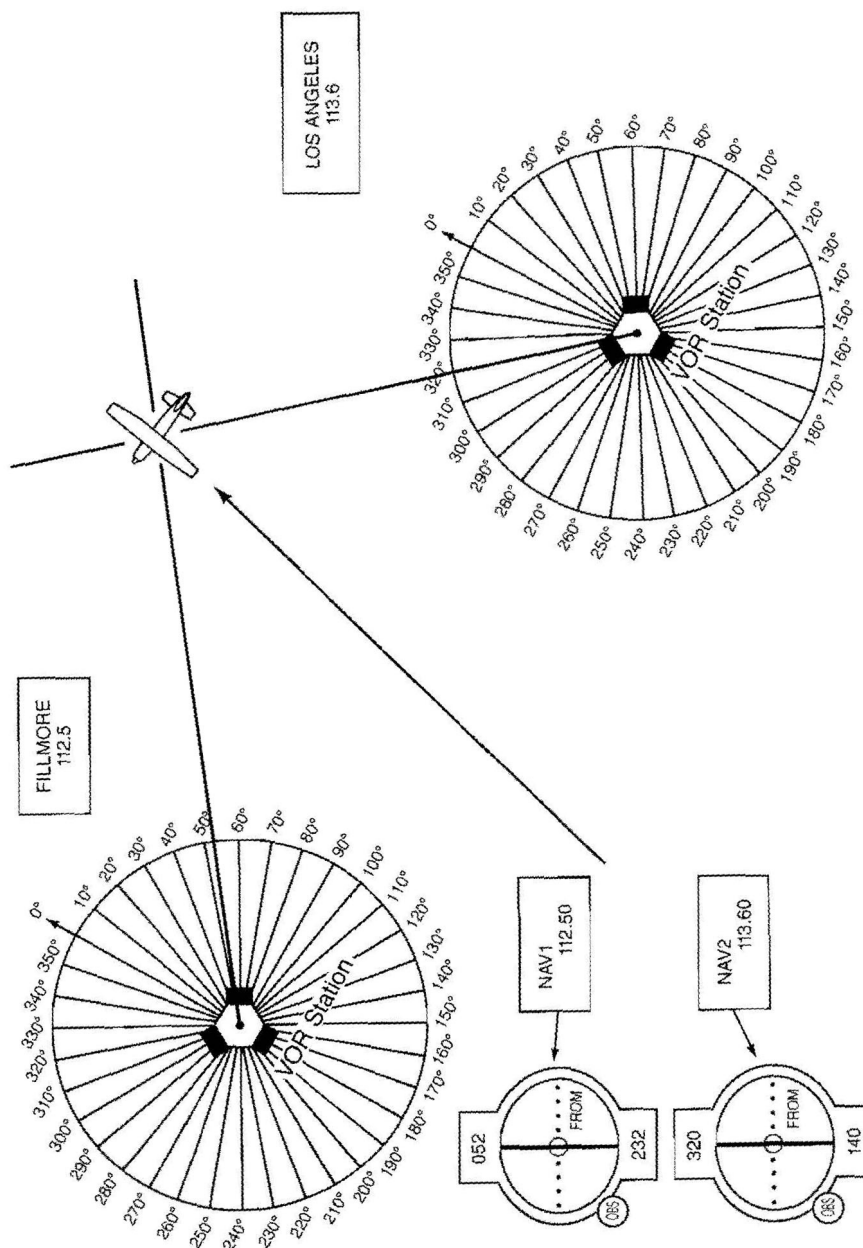

Figure 18. VOR Crosschecking
3. Look at your navigation chart and draw lines down the radials of the two VORs. The intersection of the lines is your position (see Figure 18).